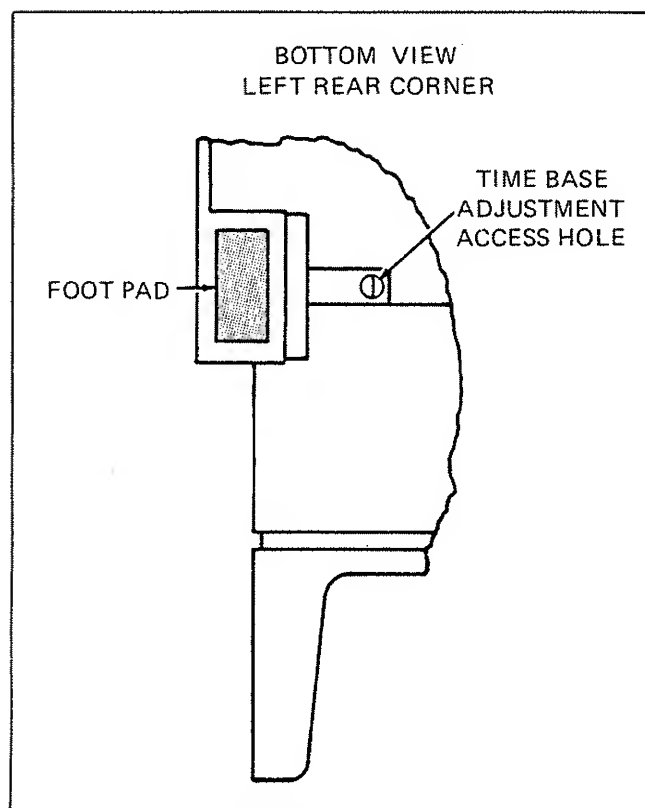

Figure 4-13. Time Base Adjustment Location
4. Using a non-ferrous adjustment tool, adjust the oscillator trimcap to obtain a display of 10.000000 MHz \pm 57 Hz. 57 Hz is the maximum allowable deviation for this time base at this input frequency and resolution setting. The maximum allowable deviation can be found by multiplying the input frequency by the total accuracy, and adding the 1 count error (see Table 4-3). The oscillator trimcap is accessible through a hole at the left rear corner of the bottom of the 7220A (see Figure 4-13), so the 7220A will have to be turned on its side or top to perform this adjustment. If the tilt bail is mounted in the rear, it will have to be removed.
4-47. Some of the Standard Time Bases have a coarse adjustment trimcap on the top of the PCB in addition to the fine adjustment trimcap which is accessible through a hole in the bottom of the instrument case (see Figure 4-13).